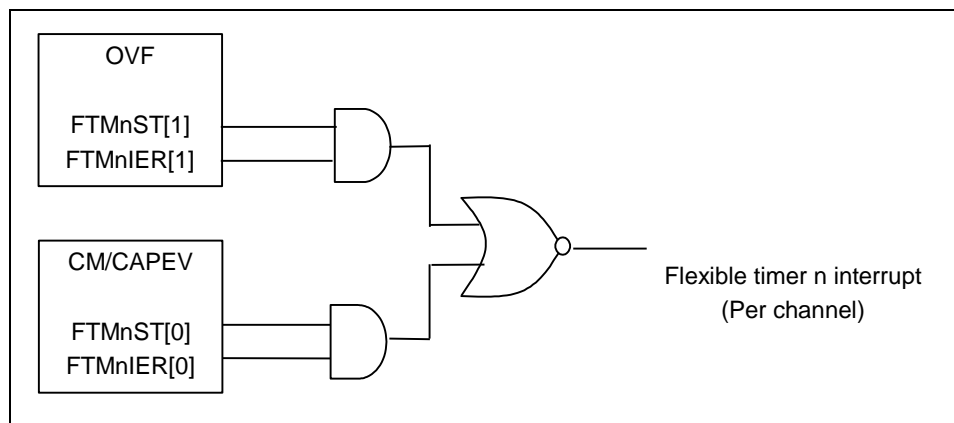

Figure 0-5 Interrupt Signal Output to CPU
Each channel has two types of interrupts, overflow and capture/compare matching. A signal reversed after executing a logical addition (OR) between the logical product (AND) of the overflow status register (FTMm_FTMnST[1]) and the overflow interrupt enable register (FTMm_FTMnIER[1]) and the logical product (AND) of the capture/compare matching status register (FTMm_FTMnST[0]) and the capture/compare matching interrupt enable register (FTMm_FTMnIER[0]) is output to CPU for each channel. (Total of three Low level outputs Figure 0-5 Interrupt Signal Output to CPU) An interrupt is cleared by writing "1" to the status register (FTMm_FTMnST) from CPU.